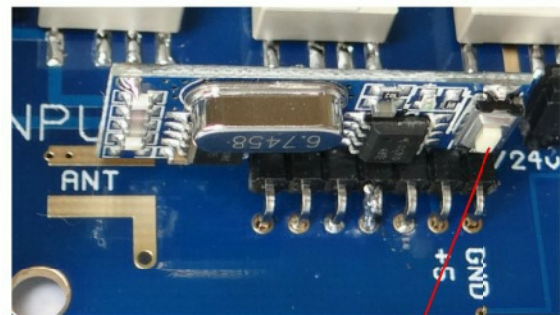

Figure 1
3. Hold down the pairing button on the RF Module for 3 seconds (refer to figure 1)